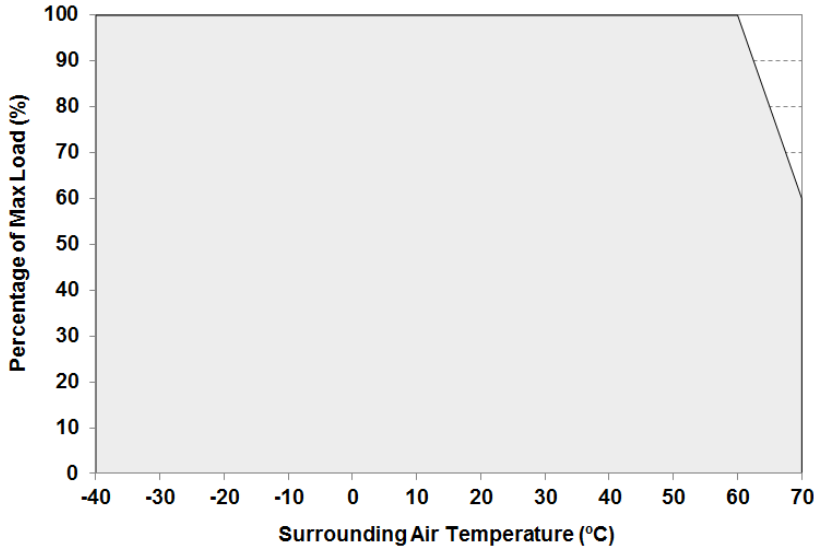

Fig. 1 De-rating for All Mounting Orientation (All Models)
1. Power supply components may degrade, or be damaged, when the power supply is continuously used outside the shaded region, refer to the graph shown in Fig. 1.
- If the device is continuously operating outside the shaded region shown in Fig. 1. The device may be damaged or degraded.